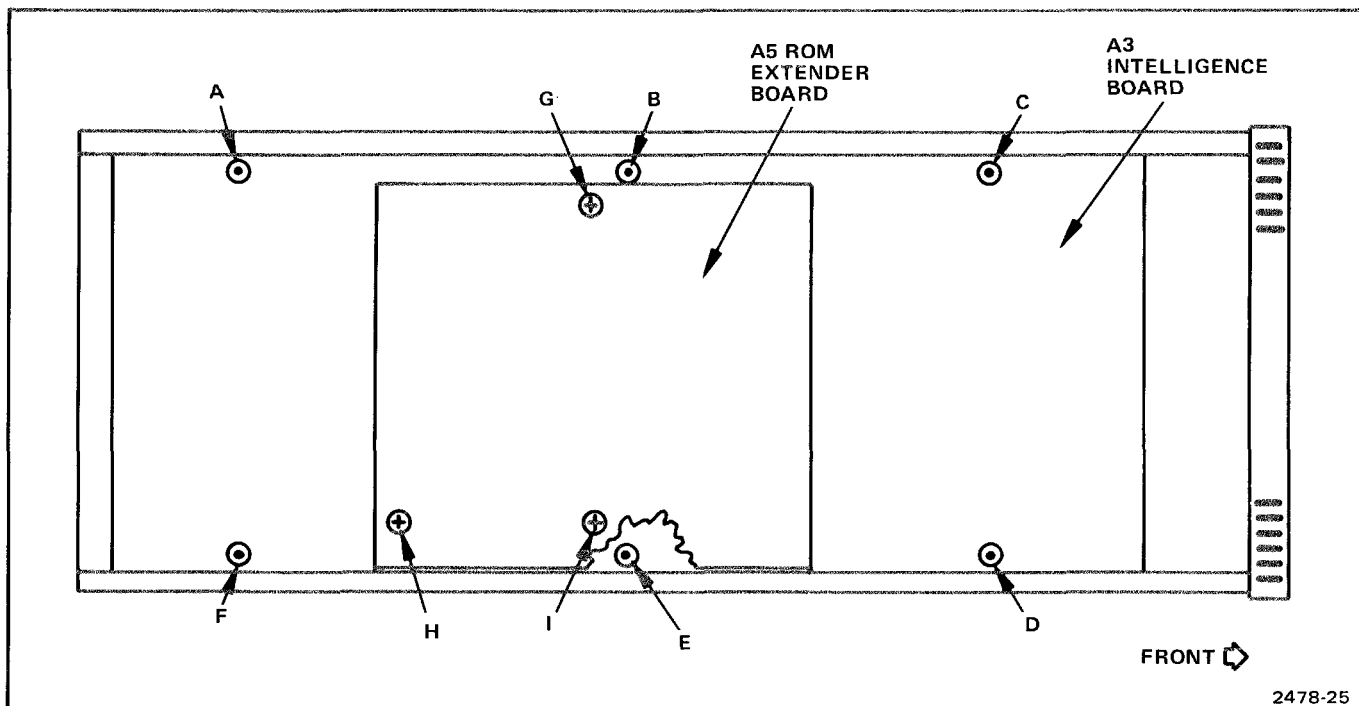

Figure 6-8. Locations of securing screws on A3 Intelligence circuit board and A5 ROM Extender circuit board.
3. Remove 3 screws (G, H, and I on Figure 6-8).
2. Remove 6 screws (A, B, C, D, E, and F on Figure 6-8).